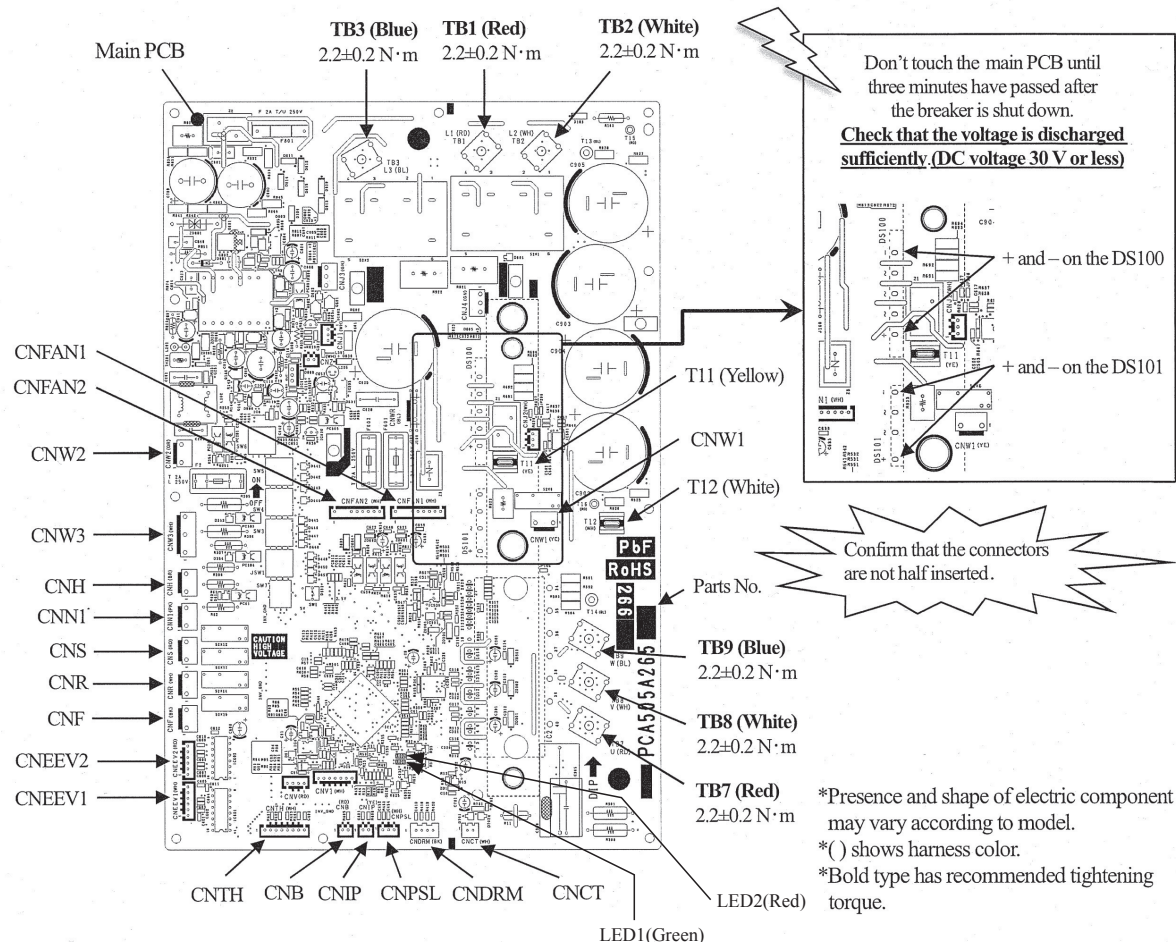

Fig.2 Parts arrangement view of main PCB and voltage measurement points
In the situation that harnesses are connected to main PCB, **be sure to measure voltage (DC)** on main PCB, and **check that the voltage is discharged sufficiently (DC voltage 30 V or less)**. (Refer to Fig.2)
- c) Disconnect the connectors, faston terminals and round terminals from the main PCB as shown in Fig.2.